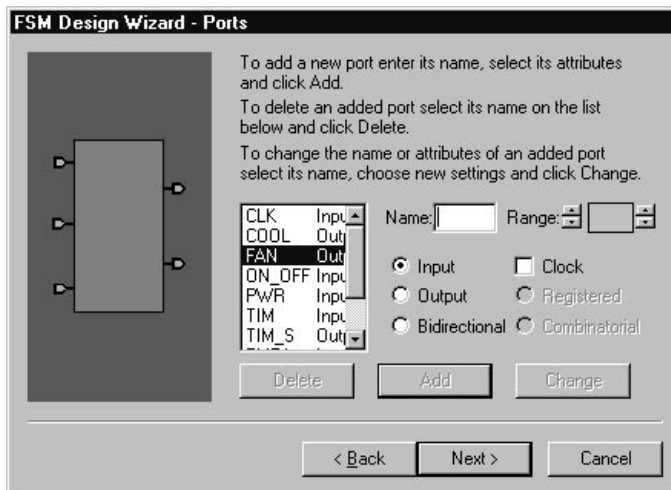

Figure 2-17. FSM Design Wizard: Entering Ports
Since the port names have been entered during the symbol editing (Figure 12), they are automatically be listed in Figure 2-17. You need to review these signals and assign to them the proper I/O port properties:
- ❑ click on the top-most signal name listed in Figure 2-17. If the port's parameters (input, output, bi-directional, latched, non-latched and clock) are correct, skip to the next signal name. If the port's parameters are incorrect, select the appropriate parameters and click on the **Change** button.
- ❑ If you enter a new port in Figure 2-17, it will automatically be added to the symbol. If you need to reposition the automatically added pin on the symbol outline, select the symbol editor and manually edit the symbol pins.